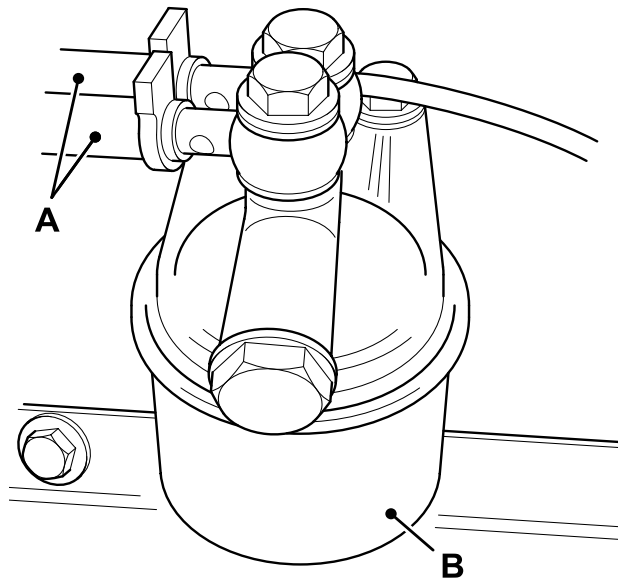

Fig 91.
- 3 Clamp the fuel hoses **A**. ⇒ Fig 91. \(□ 246\)